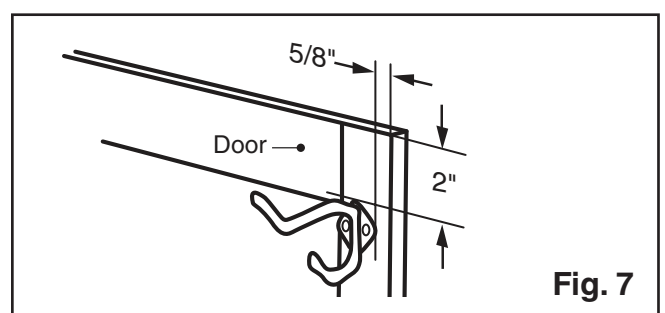

Fig. 7
9. Install garment hook. (Fig. 7)